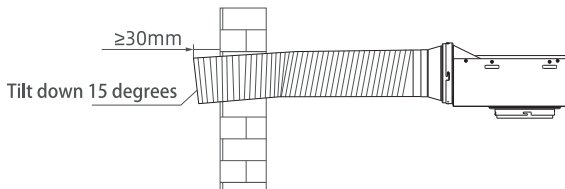

Fig.4
- Install the air outlet, fix the other end of the air outlet to the public flue (seal it with a piece of aluminum foil tape) or outdoors. Please do not insert the air outlet too deep into the public flue, so as not to affect the smoke exhaust effect. If it is led outdoors, please extend the air outlet at least 30mm outside the wall, and the air outlet should be slightly facing down to prevent rainwater from pouring back. (As shown in Figure 4)